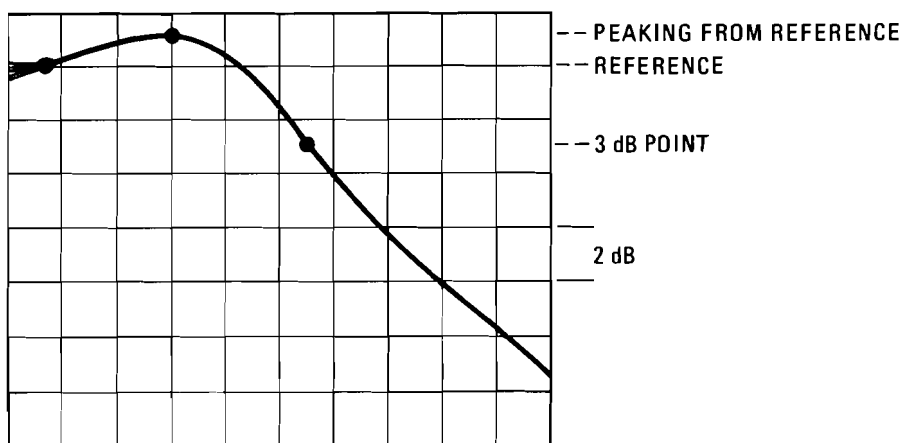

Figure 5-35. Typical AGC Bandwidth Display
Set the input attenuation and sensitivity of the spectrum analyzer as needed so that the signal at the left side of the display (after ringing) is one division below the top graticule (see Figure 5-35).
5. After changing a capacitor, tune the RF frequency of the Generator through the selected band again. Verify that the signal level does not peak more than 6 dB from the reference level and that no oscillations occur (see Figure 5-35). If peaking is greater than 6 dB, increase the capacitance.